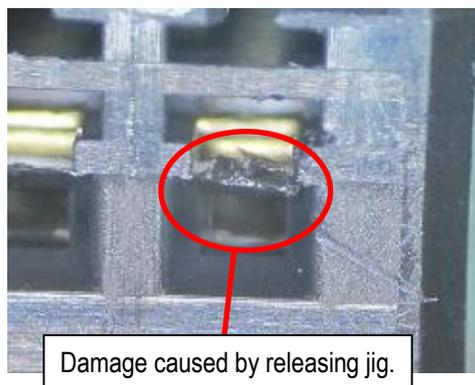

Fig.41 Damage caused by releasing jig
- ③ Push the releasing jig fully into the lance, then lever up the lance as shown in Fig.41
- ① Do not pry with the releasing jig or female terminals during operation. Check for any deformation or damage on the female terminals and the female housing after releasing the terminals. (see Fig.41)